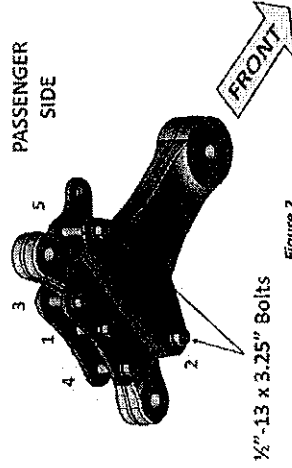

Figure 2
- The 3-1/4" long bolts go in the outermost holes (Figure 2)
- With the 1/2" bolts loosely installed, tighten each nut in a star pattern in the order shown in Figure 2, working up to **60 ft-lbs**